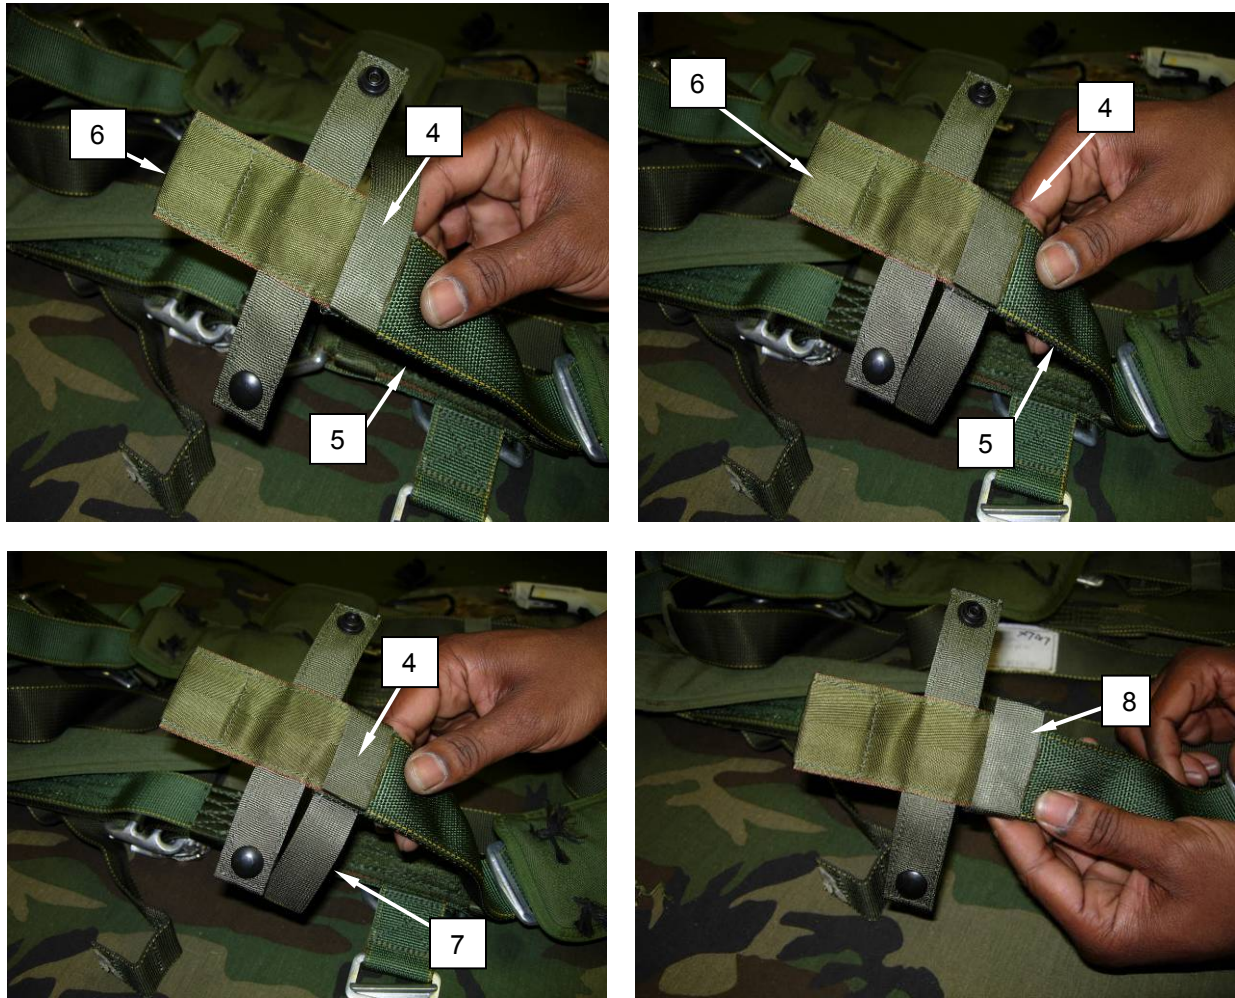

Figure 25. Attach Tuck Tab Assembly to the Upper Main Lift Web Assemblies.
17. Using a glue gun, place a small amount of glue on the tuck tab assembly, and place the tuck tab retainer (Figure 25, Item 1) flush with the left edge of the upper main lift web (Figure 25, Item 5).
19. Working from left to right, continue to wrap the tuck tab retainer (Figure 25, Item 4) free end around the upper main lift web (Figure 25, Item 5) and tuck tab assembly (Figure 25, Item 6). Ensure to press firmly to allow the glue to hold the tuck tab retainer in place.
20. Place a small amount of glue on the tuck tab retainer (Figure 25, Item 4) top and continue to wrap the tuck tab retainer free end (Figure 25, Item 7) back over itself. Secure into place (Figure 25, Item 8).